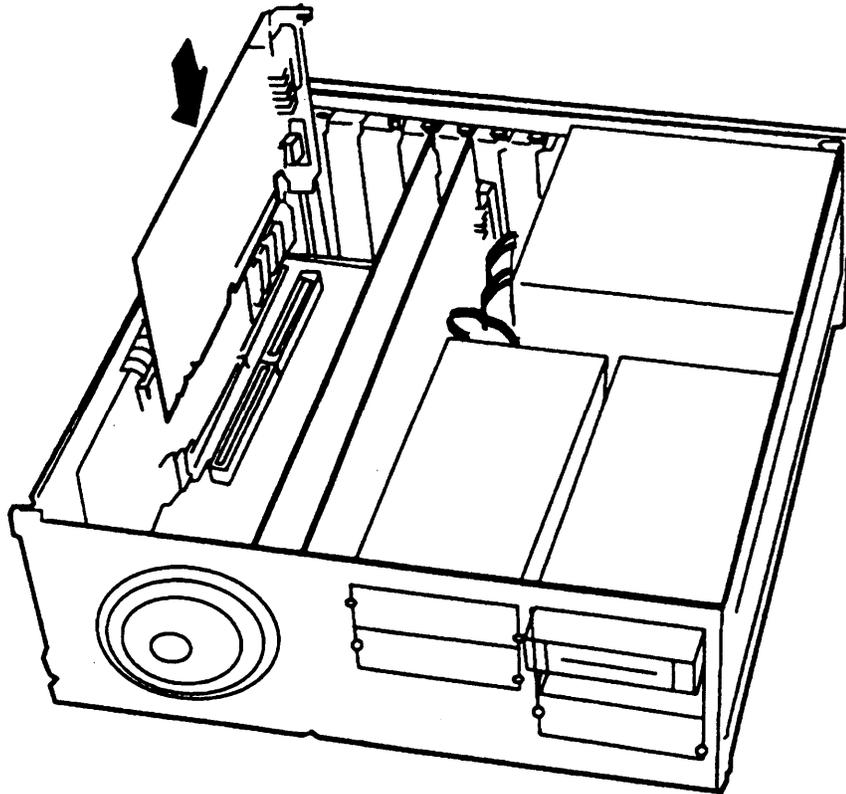

Figure 2-9. Inserting a Circuit Board into an Expansion Slot
2. Holding the expansion board by its edges, insert the board into the correct slot as shown in Figure 2-9.